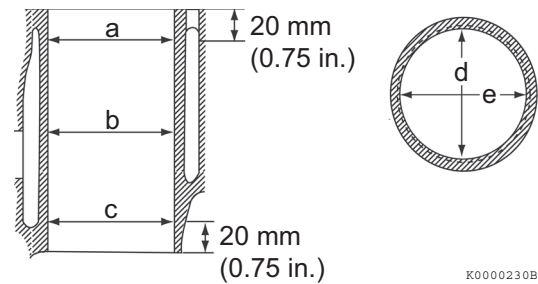

Figure 6-67
- Take measurements at three places (**Figure 6-67**) (a, b, c), and in two directions (d and e) in each cylinder.